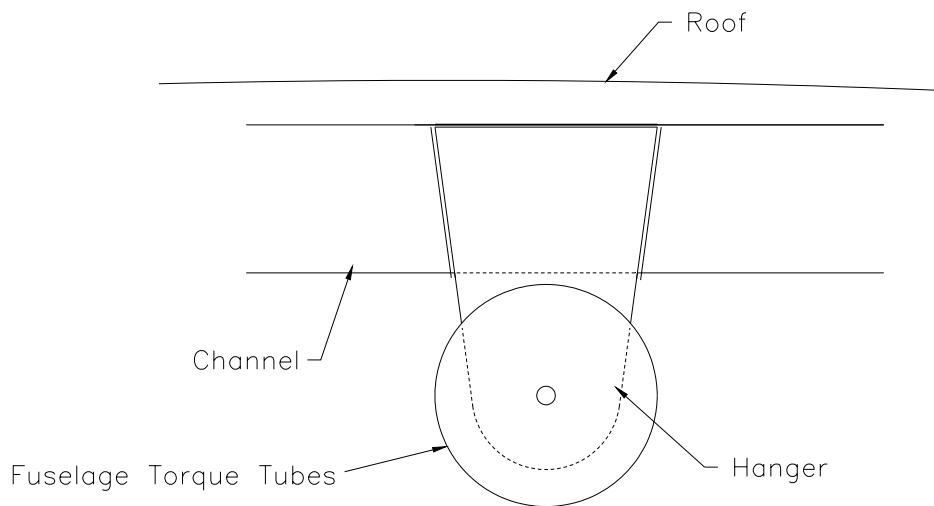

Figure 20.6.8
17) Trace the position of the hanger on to one of the channels. Figure 20.6.8.